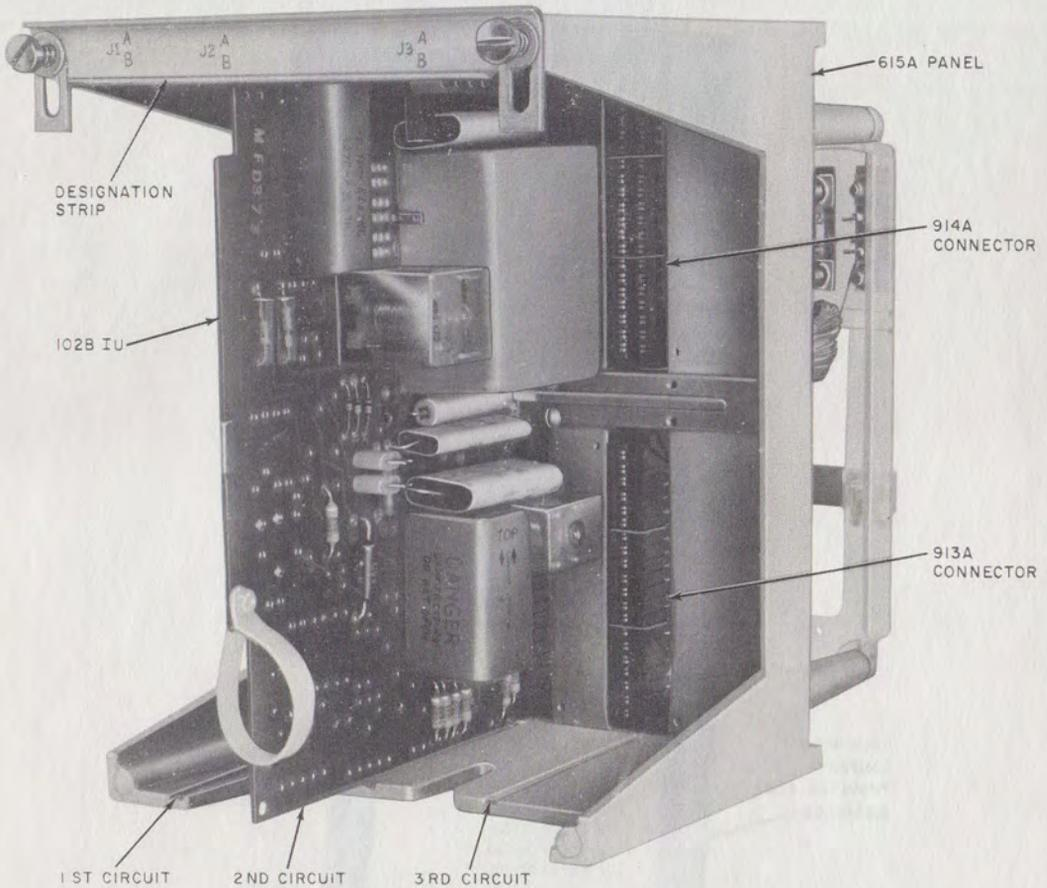

Fig. 4—102B Interconnecting Unit Mounted in 615A Panel
- Panel, 615A (fuse panel only—no power unit; will mount up to three 102-type IUs, Fig. 4)
102-Type Interconnecting Unit (Fig. 4)